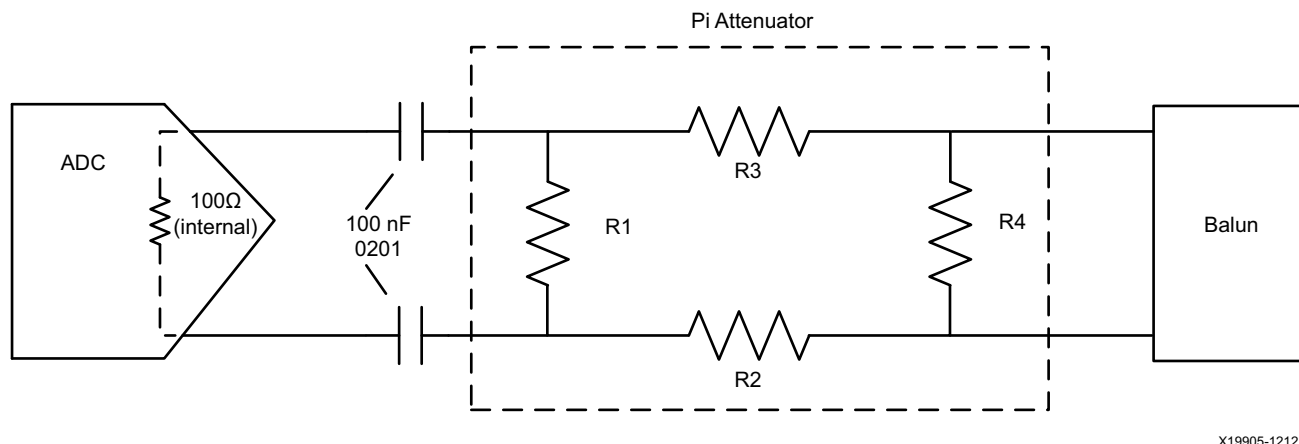

Figure 3-17: -2 dB Pi Attenuation Network
In applications that use AC coupling for interfacing the data converters, DAC outputs should be AC coupled using a 100 nF capacitor in package size 0402 or smaller. ADC can be AC coupled, if necessary, and should be 100 nF in package size 0402 or smaller. Figure 3-17 illustrates a representative placement of the AC coupling capacitors in a typical ADC interfacing circuit.
**Note:** Xilinx does not recommend using ground flooding on signal layers as this might cause the board to warp, causing strain on soldered components. Xilinx recommends adding a  $-2$  dB differential resistive Pi attenuator to optimize the RL of the device. This Pi network can be placed anywhere on the PCB between the package BGA balls and the balun. See Figure 3-17.
Xilinx ADCs and DACs have a nominal on-die  $100\Omega$  differential termination, which generally provides sufficient return loss performance for most RF applications. However, for applications requiring better than  $-10$  dB return loss up to 4 GHz, Xilinx recommends placing  $-2$  dB balanced Pi pad attenuators on the PCB. These Pi pad attenuators can be placed anywhere on the PCB between the ADC/DAC BGA balls of the package and the baluns. A representative  $-2$  dB Pi pad attenuator for a differential ADC/DAC is shown in Figure 3-17.